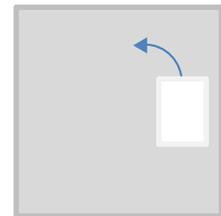

Figure 2b
8. Move the LVE to the right side of the paper, facing away from the tester (Figure 2b)